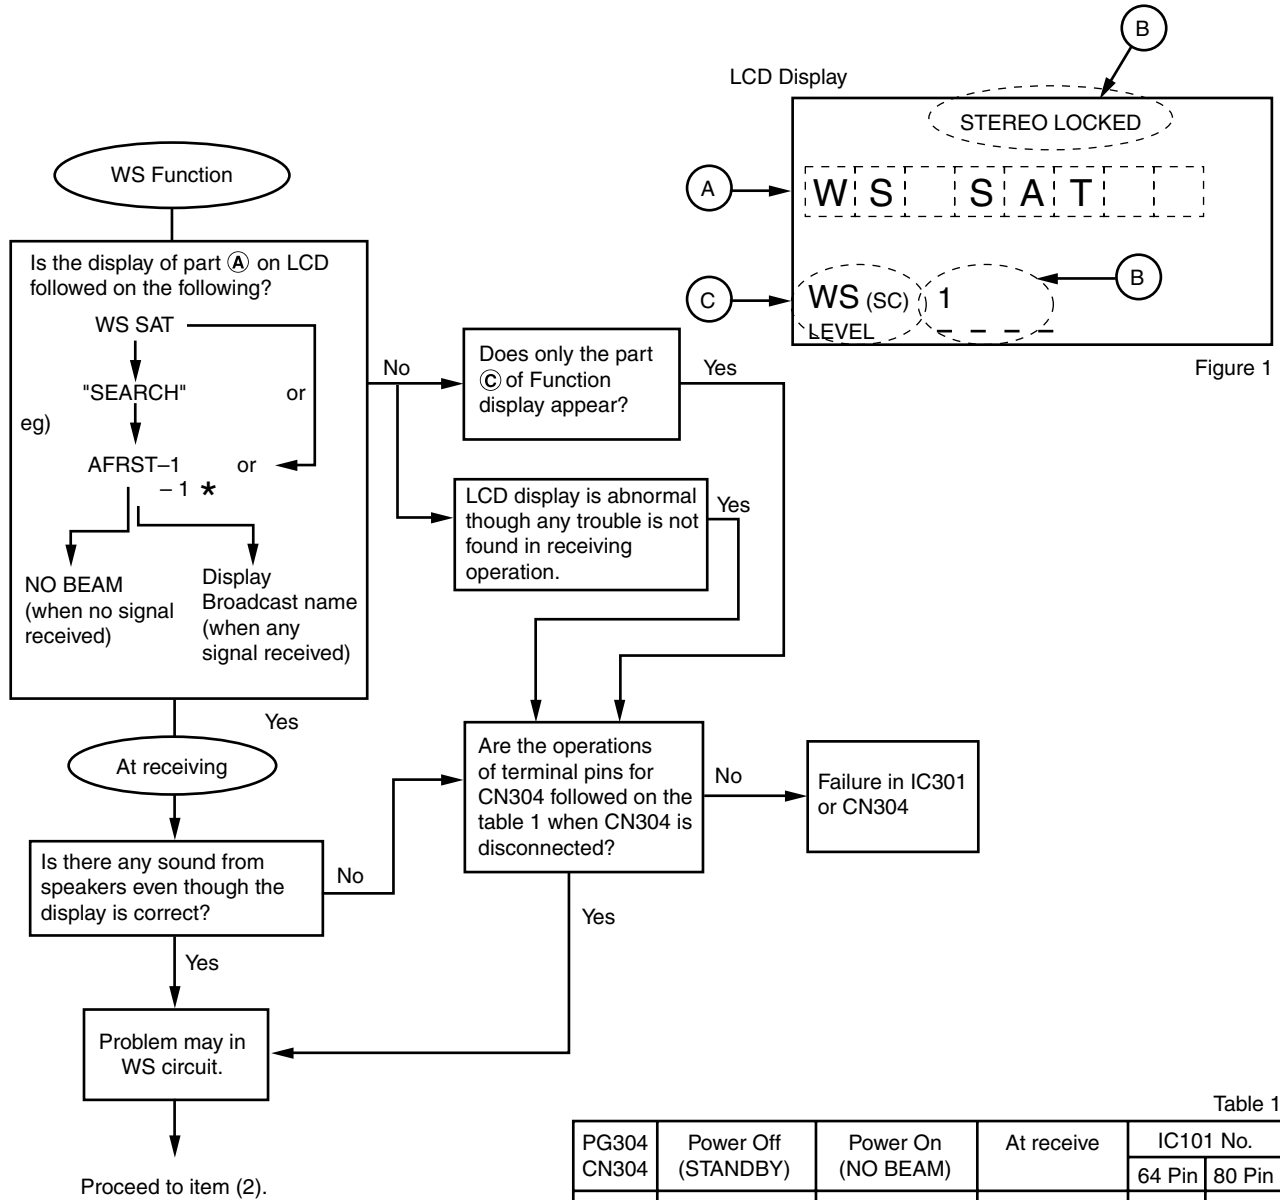

Figure 1
1. Feed in a weak signal from the Genescope. Adjust T202 for max. gain and the waveform of Fig. 1.
Only the part C of figure 1 or abnormal display will appear on LCD.